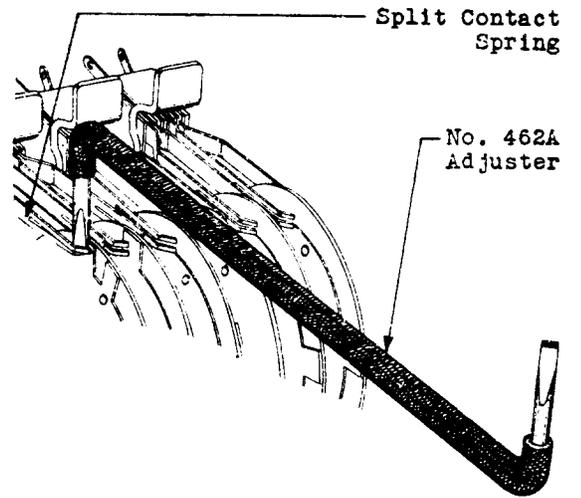

Fig. 18 - Method of Adjusting Prongs of Split Contact Springs
(5) If, after adjusting the contact spring pressure on a split contact spring, both prongs of the spring do not leave a cam cutting approximately simultaneously when the sequence switch is rotated slowly, correct the misalignment by adjusting the tips of the contact spring with the No. 462A adjuster as shown in Fig. 18. Adjust the prongs so that the angle at which the tips of the springs make contact with the cam is approximately 45 degrees. The slots in the adjuster are at an angle of 45 degrees to the cam when the handle of the adjuster is parallel to the cam. In adjusting an inner prong, move the spring adjuster on the inner prong as shown in Fig. 18.